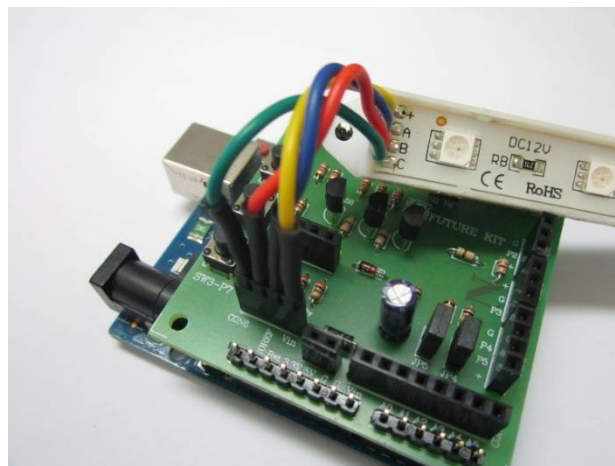

Figure 15. Connecting LED RGB MODULE with FK1411 board
6. Remove LED RGB from FK1411 board and connect LED RGB MODULE at CON6 point by turning the yellow wire to 12V point of FK1411 board. Supply the power adaptor to the jack adaptor on Arduino UNO R3 board according to Figure 15. LED RGB MODULE will be lighted-on start from blue color, red color and green color. The LED driver circuit section is good working.